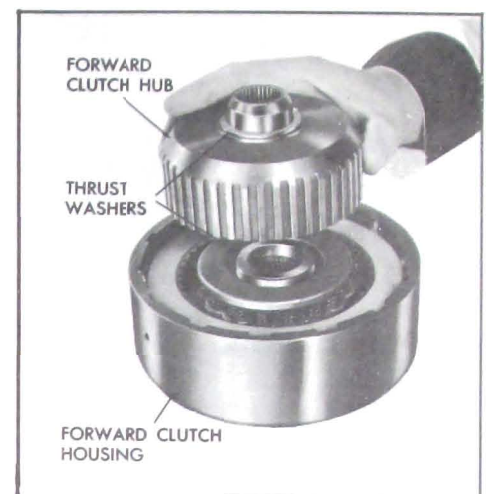

Figure 5-612
3. Remove the forward clutch hub and thrust washers. See Figure 5-612.